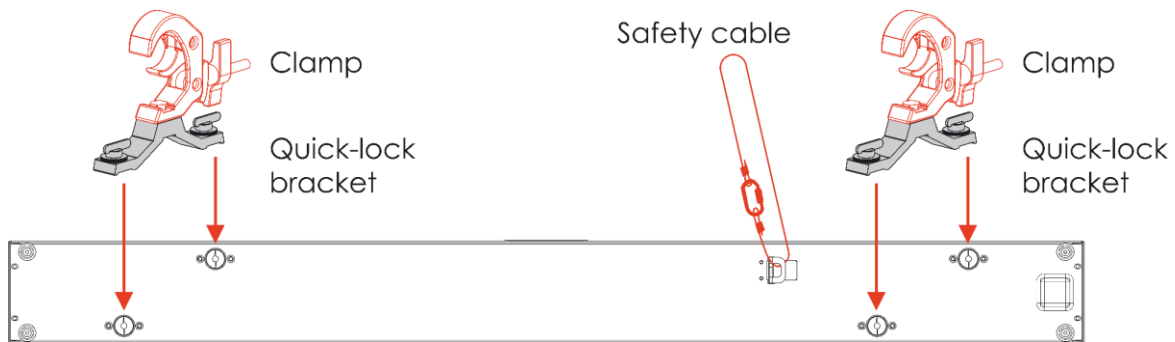

Fig. 05
- 02) Install the clamp(s), as shown in Fig. 05. Make sure that you use clamps suitable for attaching the device to a truss.
- 04) Secure the device with a secondary suspension, for example a safety cable. Make sure that the secondary suspension can hold 10 times the weight of the device. If possible, the secondary suspension should be attached to a supporting structure independent of the primary suspension. Put the safety cable through the safety eye, as shown in Fig. 05.